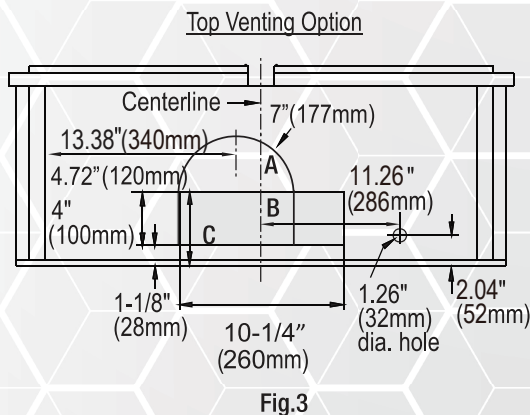
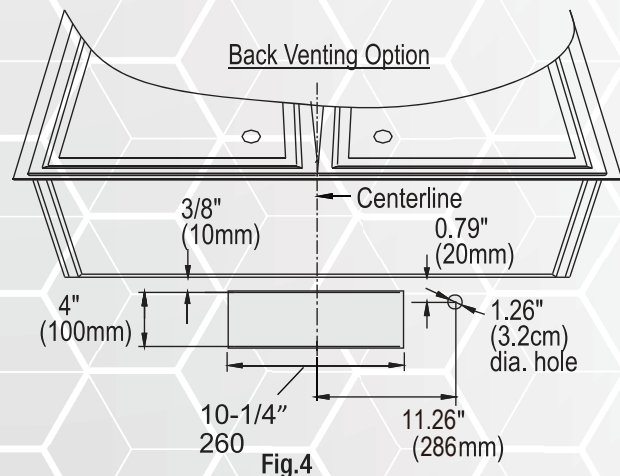

Fig.3
Fig.4
- Determine if your existing venting system is top venting or back venting, and ensure that the openings in the cabinet or wall for the damper and for power access are in appropriate locations and are of appropriate sizes, as per Fig. 3 if it is top venting or Fig. 4 if it is back venting. For top venting option (Fig. 3), if you are using the round adapter, the opening should be A and B only. If you are using the rectangular damper, opening should be B and C only.